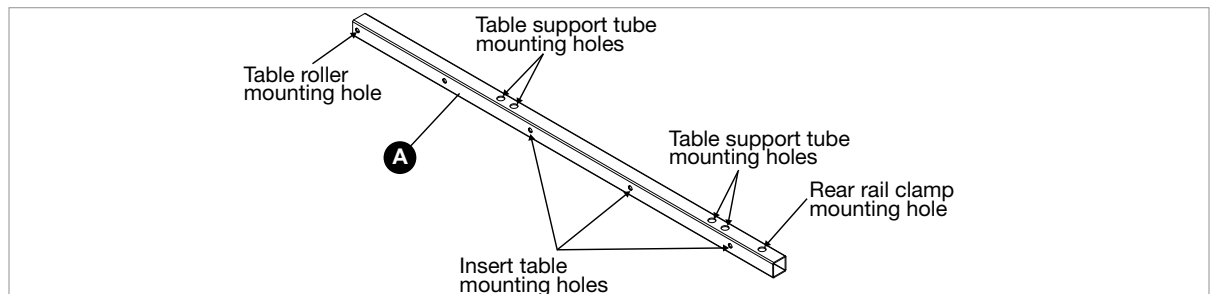

Fig. 32
The first step in assembling the Folding Outfeed Table is to assemble the three table rollers (E and F) and attach two table tubes (A) to each roller. There are five holes in the top and bottom surface of each table tube: one solitary hole and two sets of two holes paired together, and the end with the solitary holes goes near the table saw. The sets of paired holes are used to mount the table tube to the table support tubes (B), and the solitary holes are used to attach the rear rail clamps (K) (see Fig. 32 for reference).
The rear three holes on each side of the table tube are used for mounting the insert table (see Fig. 32 for reference).